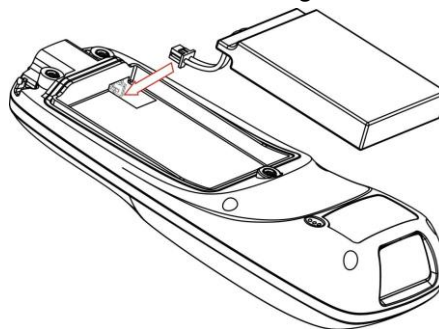

Figure 2-3. Diagram of replacing the Lithium-ion battery
2. Refer to Figure 2-3, load the battery while sliding it with the connection on the battery pack on the scanner body.